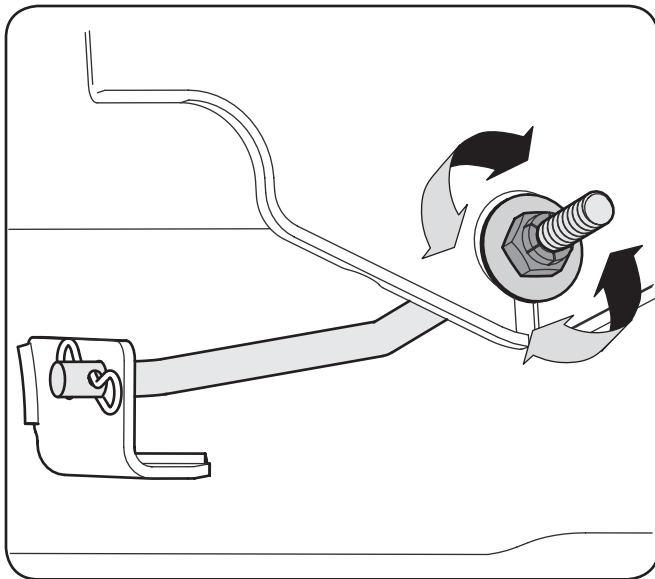

Figure 6-4
3. Locate the nut on the front side of the stabilizer bracket. See Figure 6-4. To level the deck: